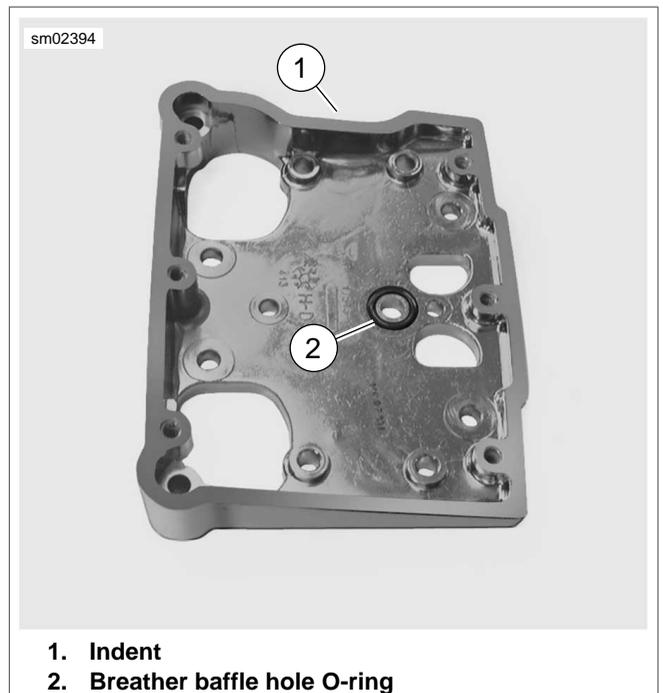

Figure 3-39. Rocker Housing Alignment
7. See Figure 3-39. With the indent (1) facing forward, place the rocker housing into position aligning the holes in the housing with those in the gasket.
9. See Figure 3-39. Apply a very thin film of clean H-D 20W50 engine oil to **new** baffle hole o-ring (2). Install **new** o-ring in groove around breather baffle hole in rocker housing.